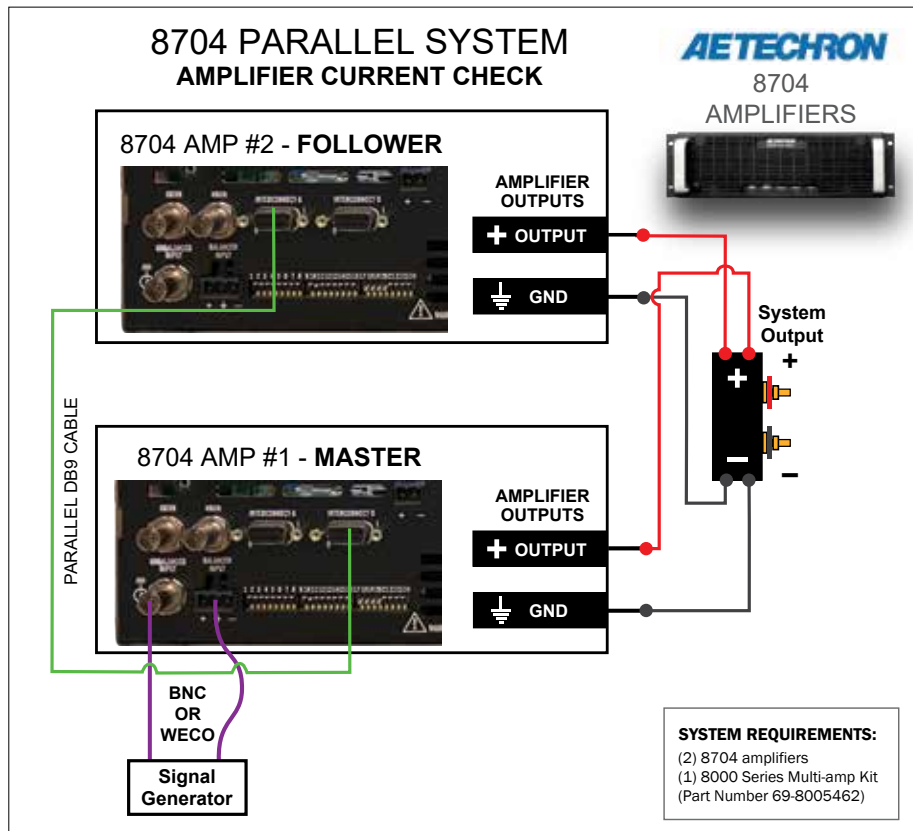

Figure 7.10 – Connecting the two amplifiers for amplifier current check
2. Connect the red wires of the output cable assembly to the terminals on the Master and Follower amplifiers labeled "Output" as described below and as shown in **Figure 7.10**.